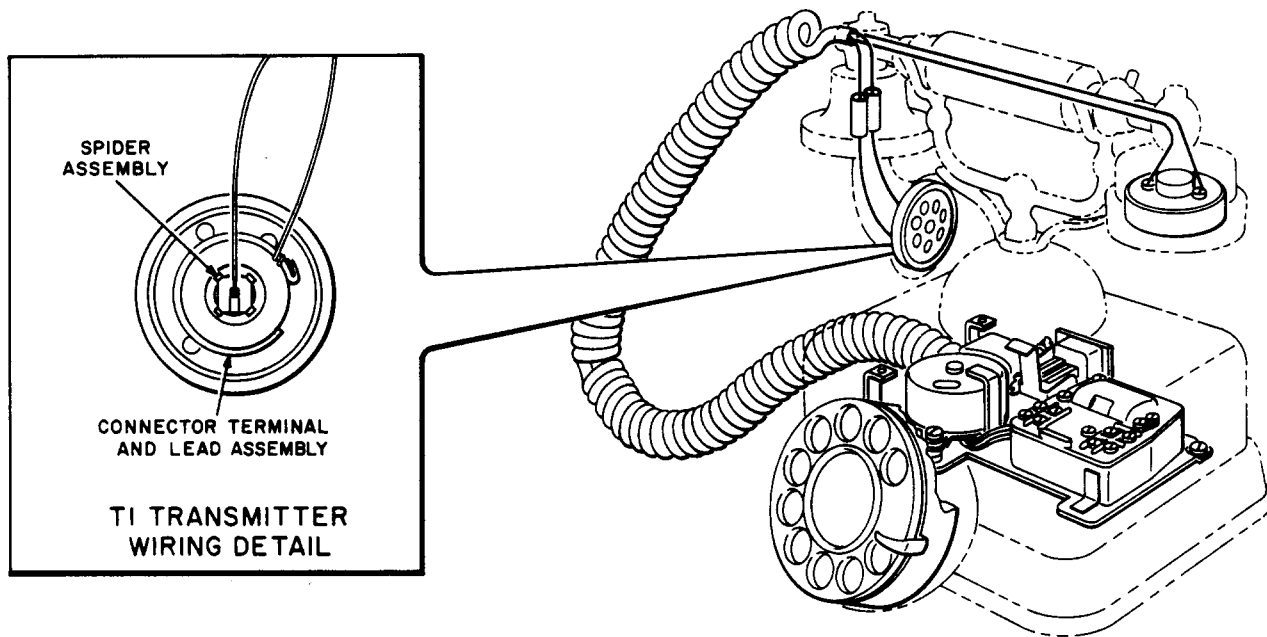

Fig. 3—Typical Installation of F-56659 or F-56660 Telephone Set in Antique Housing
- (5) Position ringed portion of connector terminal and lead assembly on transmitter unit (Fig. 3).
- (6) Snap spider and lead assembly onto center button of transmitter unit (Fig. 3).
- (7) Obtain two pieces of P-483192 sleeving and two P-121932 connector assemblies from group of components.
- (8) Cut sleeving sufficiently in length to completely insulate the connectors and place sleeving on each lead extending from transmitter unit.
- (9) Pull the *red* and *black* leads of handset cord through transmitter opening of handset, using the connectors, connect the *red* and *black* transmitter leads, respectively.
- (10) Place transmitter unit in handset cavity and replace transmitter cap.
- (11) Fig. 3 is a typical installation of a group of components installed in a customer-owned antique telephone set housing.